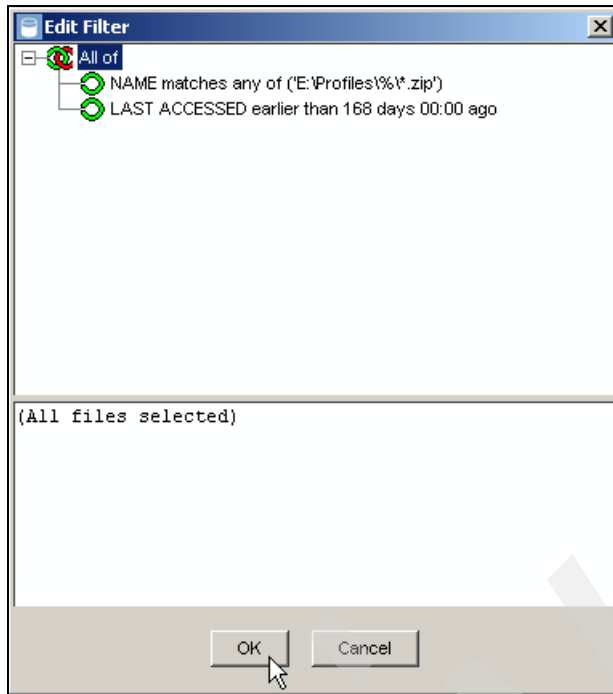

Figure 2-58 Edit Filter
4. Click **Edit Filter** to build the filter as in Figure 2-58 on page 56.